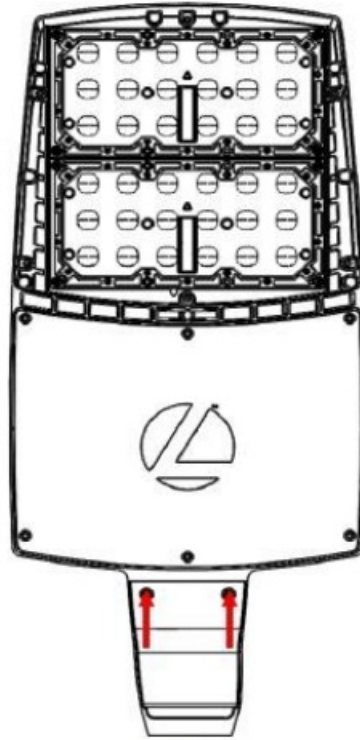

Figure 1
1. Loosen the captive screws of the arm cover (Fig 1) to access the pole mounting area